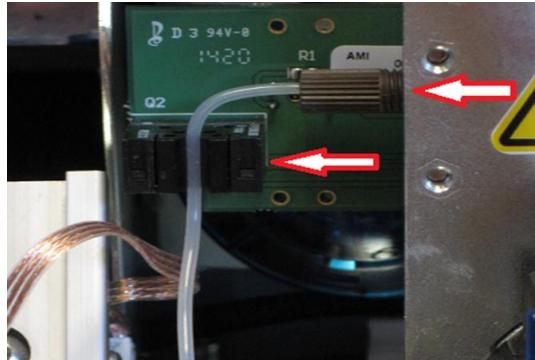

Figure 9
9. Connect the new Needle-to-Reading Cell Tubing to the Reading Cell by tightening the brown thumbscrew on the end of the Reading Cell Tubing into the Reading Cell ensuring that it remains straight and not cross-threaded. (Figure 9)
11. Insert Needle-to-Reading Cell Tubing into the Tail Sensor while verifying a nearly 90° angle from the reading cell through the tail sensor. See figure 9 as a reference.